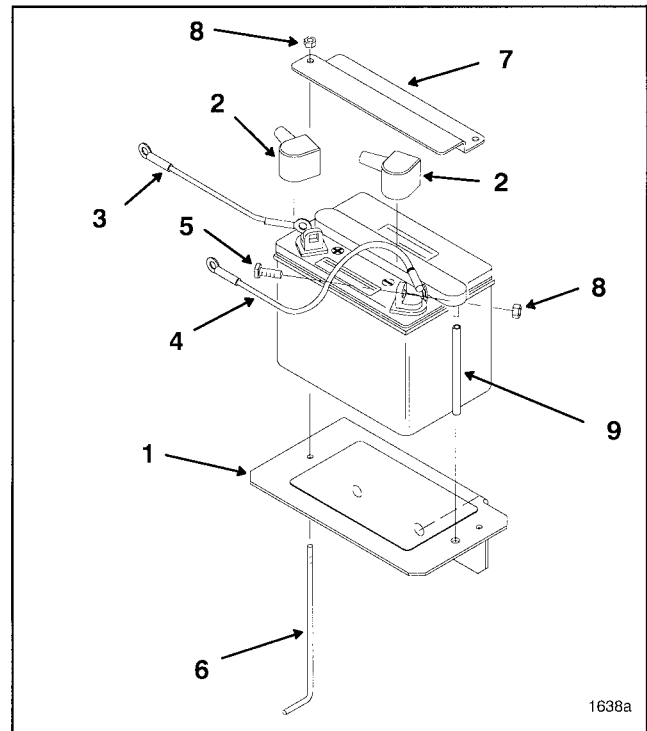

Figure 13
3. Position battery onto holder with terminal posts away from the engine (Fig. 13).
6. Mount battery to holder with (2) support rods, a battery clamp and (2) locknuts. Position support rods in mounting holes (Fig. 13). Tighten locknuts so battery is held securely in position and will not slide. **DO NOT OVERTIGHTEN.**